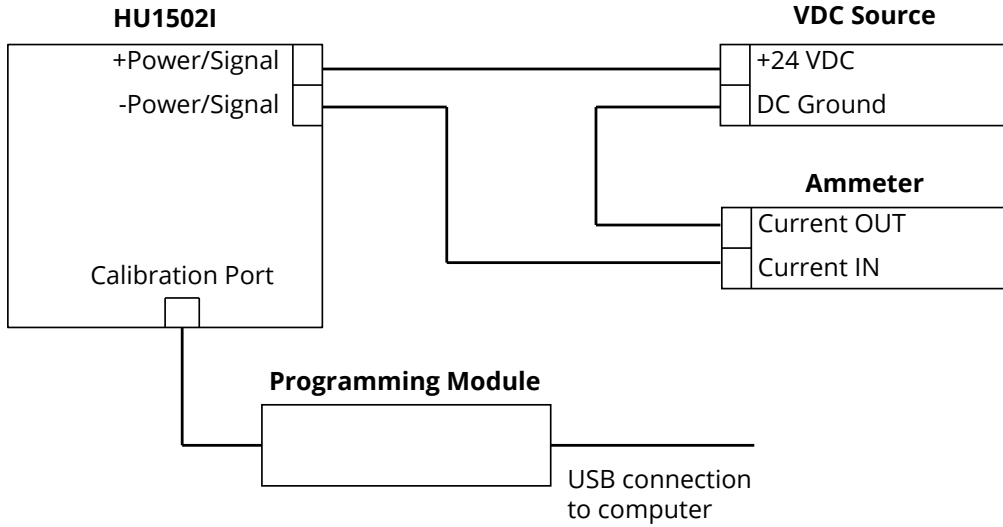
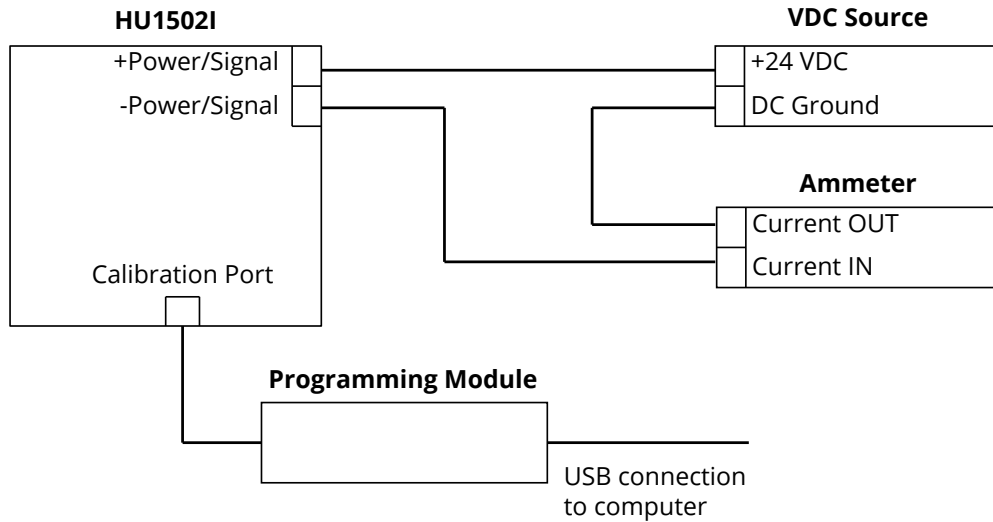

Figure 4.1
Figure 4.2
- Connect the HU1502I to a 24 VDC source and an ammeter or voltmeter. Consult the pinout on the HU1502I label and the wiring diagrams on page 8 (Figure 4.1 for 4-20 mA Output, Figure 4.2 for 0-5 VDC output) to ensure correct pin/wire connections.